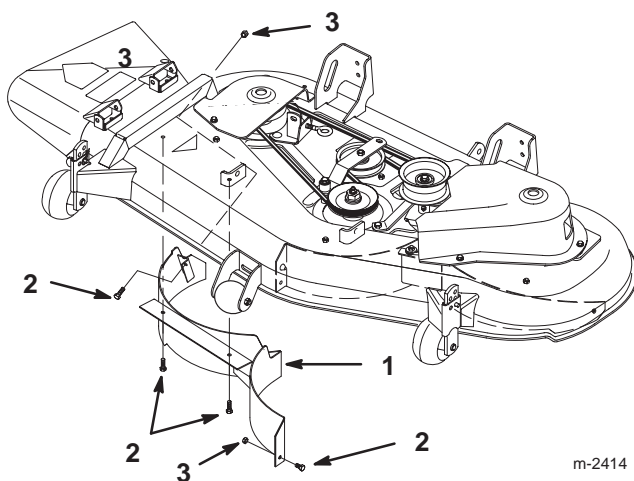

Figure 15
2. Remove the lock nuts from the top and center of the right side baffle (Fig. 15).
3. Lower the baffle and slide it out of discharge opening to remove it (Fig. 15).
4. Install the previously removed bolts (5/16 x 5/8 inch) and locknuts (5/16 inch) in the open holes of the mower for safety (Fig. 15).
2. Remove the bolts and nuts in the holes needed for the baffle (Fig. 15).
3. Install the baffle by sliding it into the discharge opening (Fig. 15).
4. Secure the baffle with the nuts and bolts (Fig. 15).